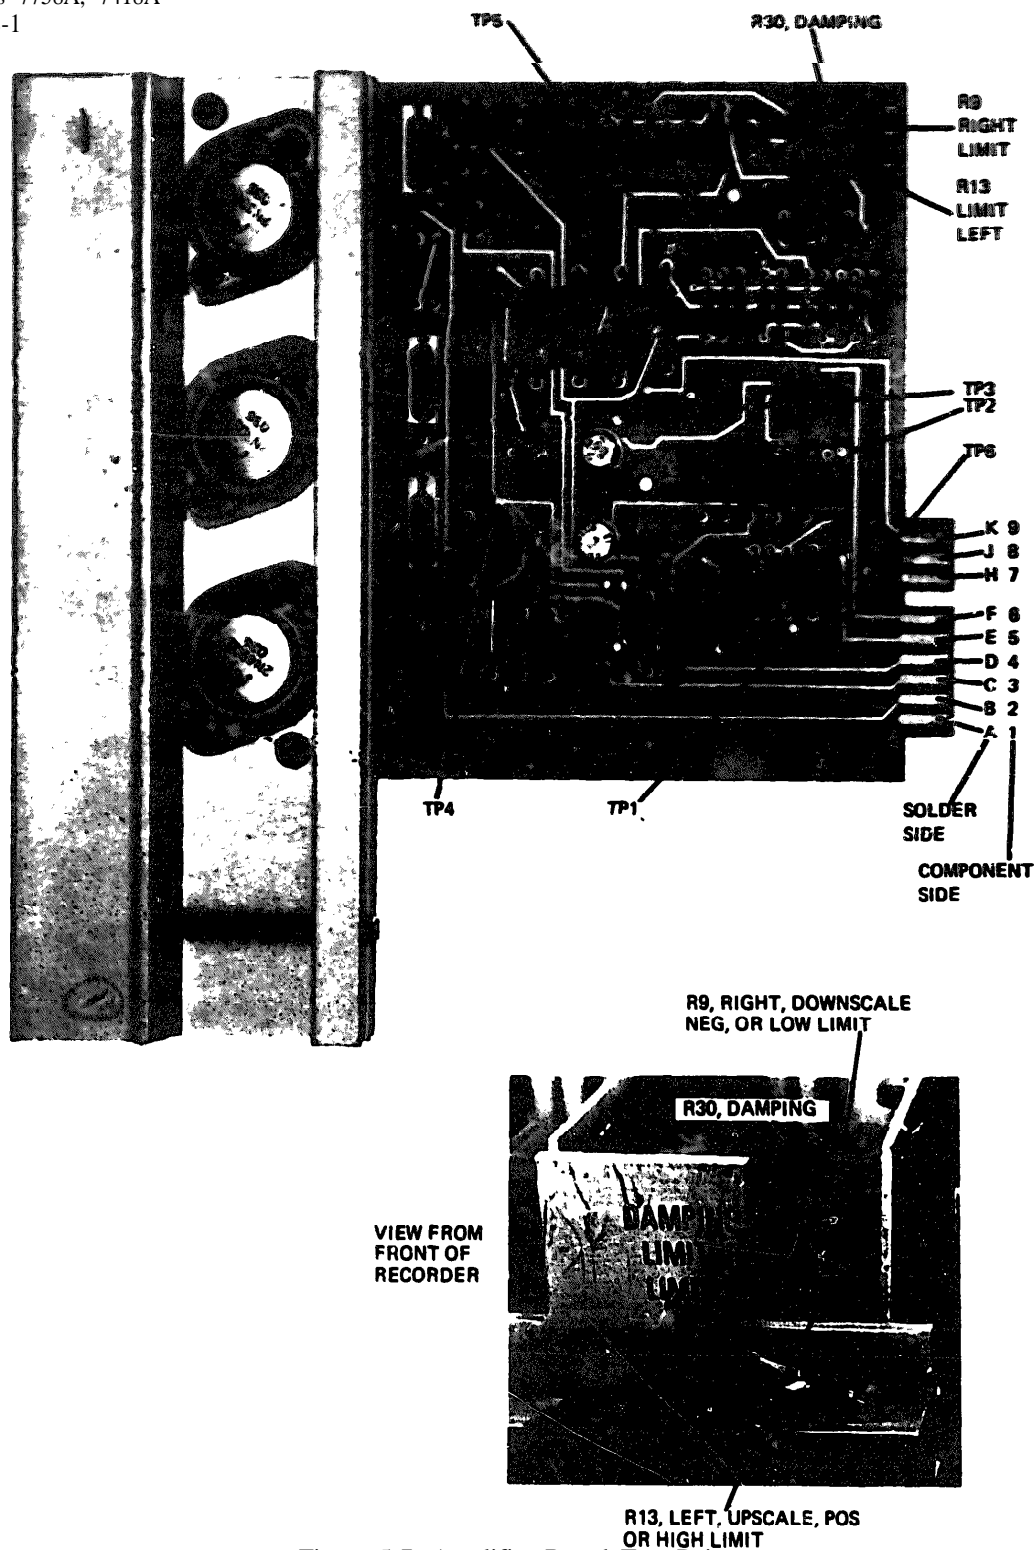

Figure 5-7. Amplifier Board Test Points
c. Adjust LIMIT controls and (R) R13, Figure 5-7 inset) on each Driver Amplifier board fully clockwise. to cause all styli to travel at least 1.5 divisions beyond chart channel edge, for channels next to markers, and 3 divisions on all other channels.
a. Adjust Channel 1 LIMIT L control (R13, Figure 5-7) to limit stylus travel to 1.5 divisions beyond left line of chart.
e. Adjust Channel 1 DAMPING control (R30, Figure 5-7 inset) so overshoot on chart is between 0.5 and 0.8 division.
h. Connect scope between TP1 (Figure 5-7) and signal ground.
a. Connect Digital Voltmeter (DVM) between TP6 (Figure 5-7) and power ground.